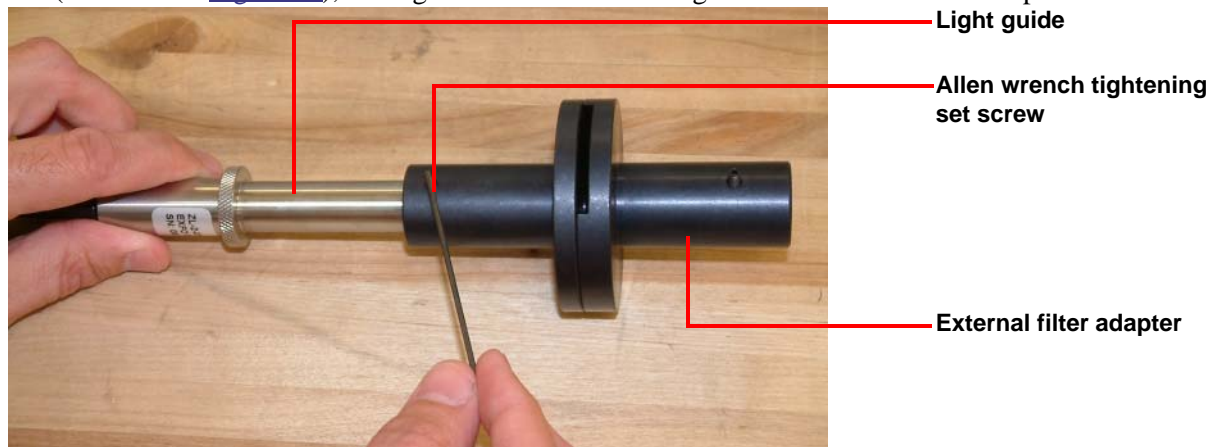

Figure 13 Light guide installed in external filter adapter.
- 2 Insert the Omnicure S2000 end of the light guide into the external filter adapter, ensuring it is fully seated (as shown in Figure 13), and tighten the set screw using the 1.5-mm Allen wrench provided.